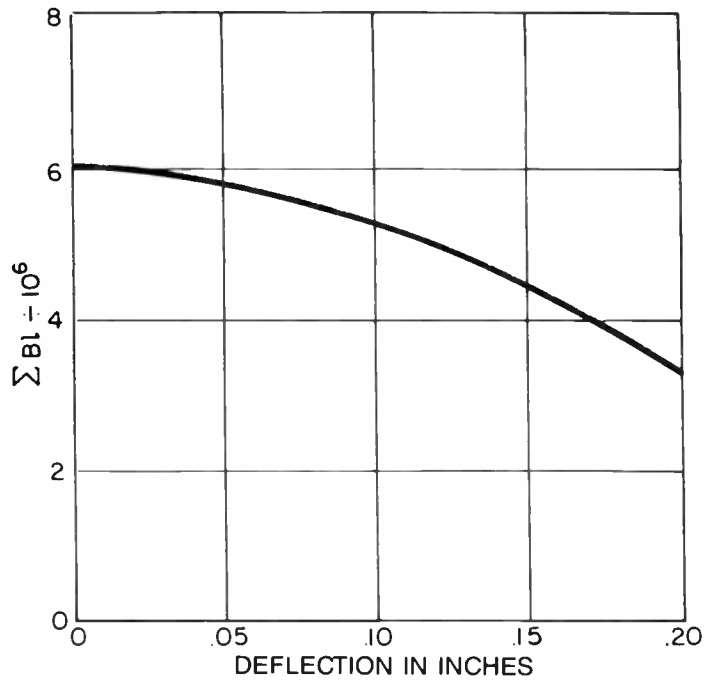
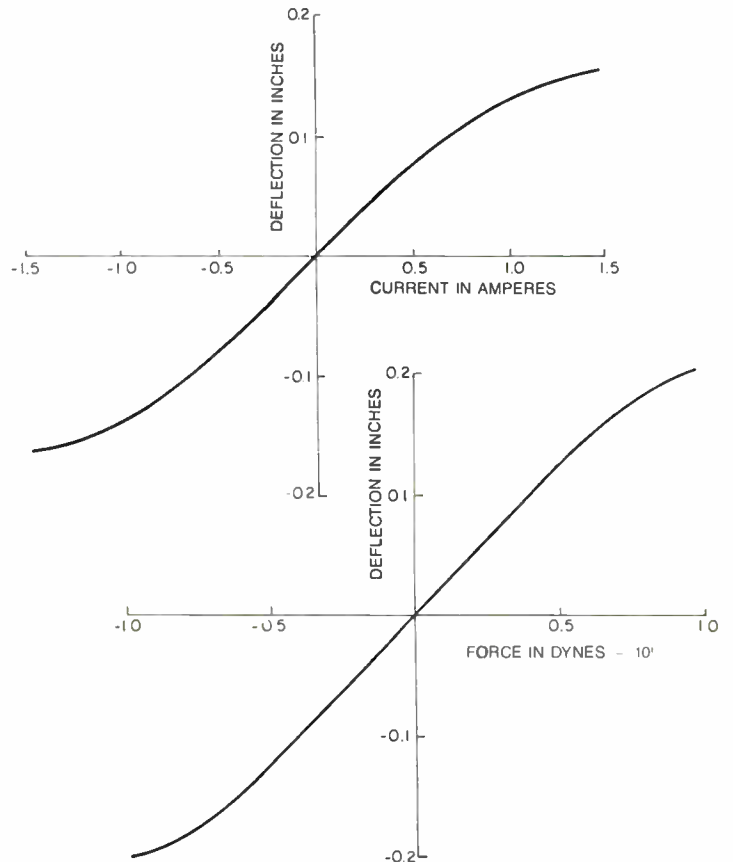

Figure 3. The  $\Sigma B l$  of the voice coil as a function of the deflection of the voice coil.
Figure 4. The deflection as a function of the force (in dynes) of the cone suspension system, and as a function of the current (in amperes) in the voice coil.
The quantity of the right hand side of equation (2) as a function of the axial displacement of the voice coil is given by the graph in Figure 3. The graph in Figure 3 shows that for a constant current the force decreases as the voice coil moves out of the air gap. Under these conditions the driving force is a nonlinear function.
The stiffness of the suspension system is also a nonlinear function. As a consequence, the displacement of the cone as a function of the displacement is shown in Figure 4.
of Figures 3 and 4 and is depicted in the top scale of Figure 4.